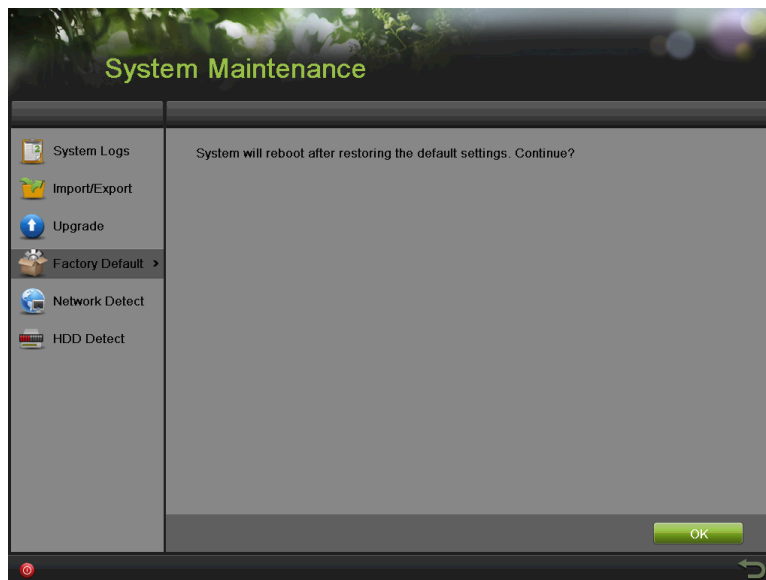

Figure 172 Factory Default Menu
1. Enter the Factory Default menu, shown in Figure 172 by going to Menu > Maintenance > Factory Default.